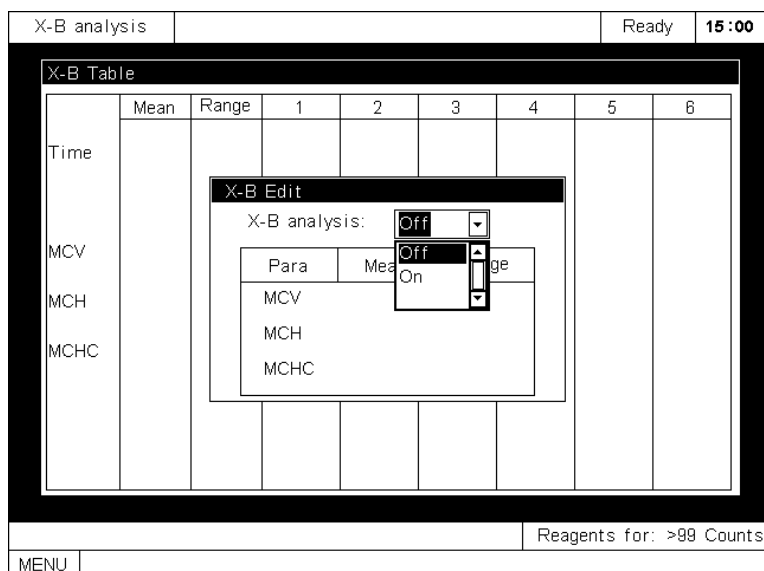

Figure 4-17 Enabling X-B analysis
- B. Press [ENTER] to display the pull-down menu, as Figure 4-17 shows.